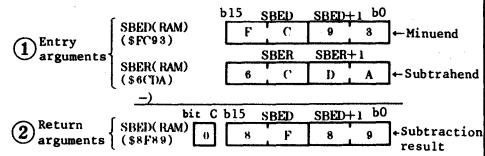

Fig. 1 Example of SUB execution
<p>(b) Fig. 1 shows example of SUB execution.</p> <p>If entry arguments are as shown in part ① of Fig. 1, subtraction result is stored in SBED (RAM) as shown in part ② of Fig. 1.</p>